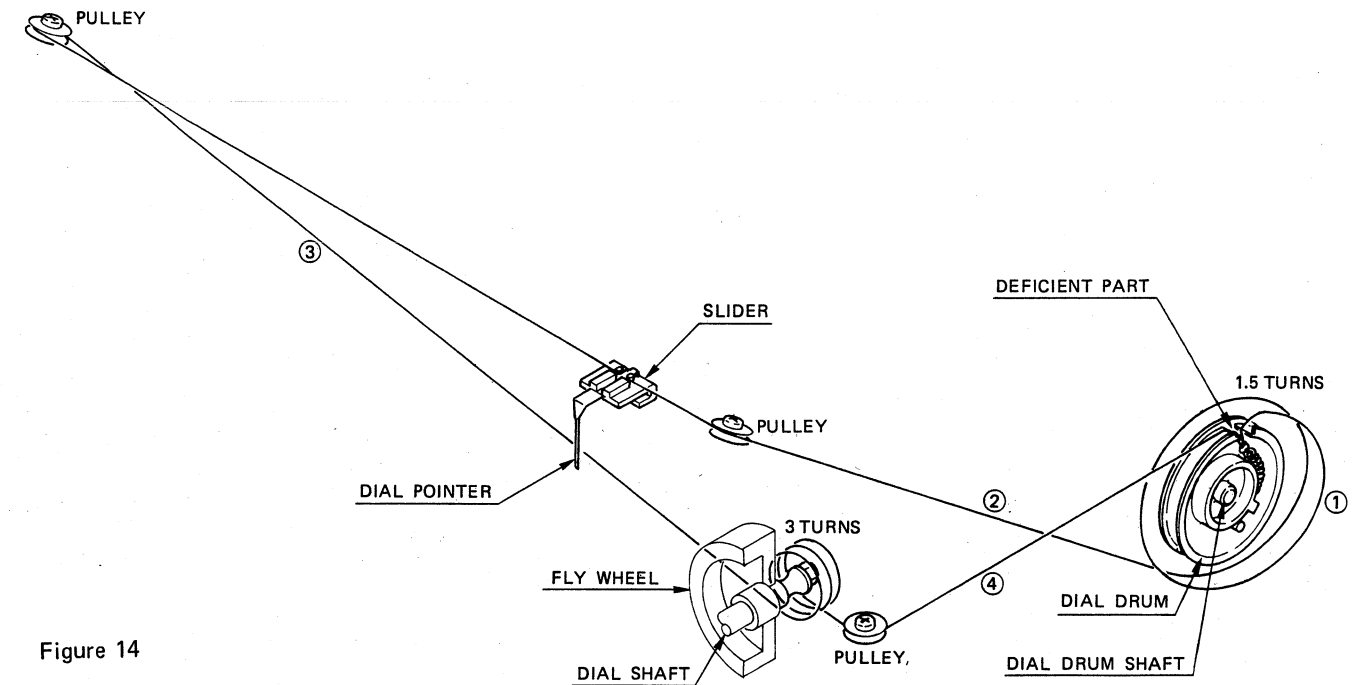

Figure 14
3. String the dial drum and pulleys with a new dial cord in accordance with Fig. 14 (in circled numbered order).